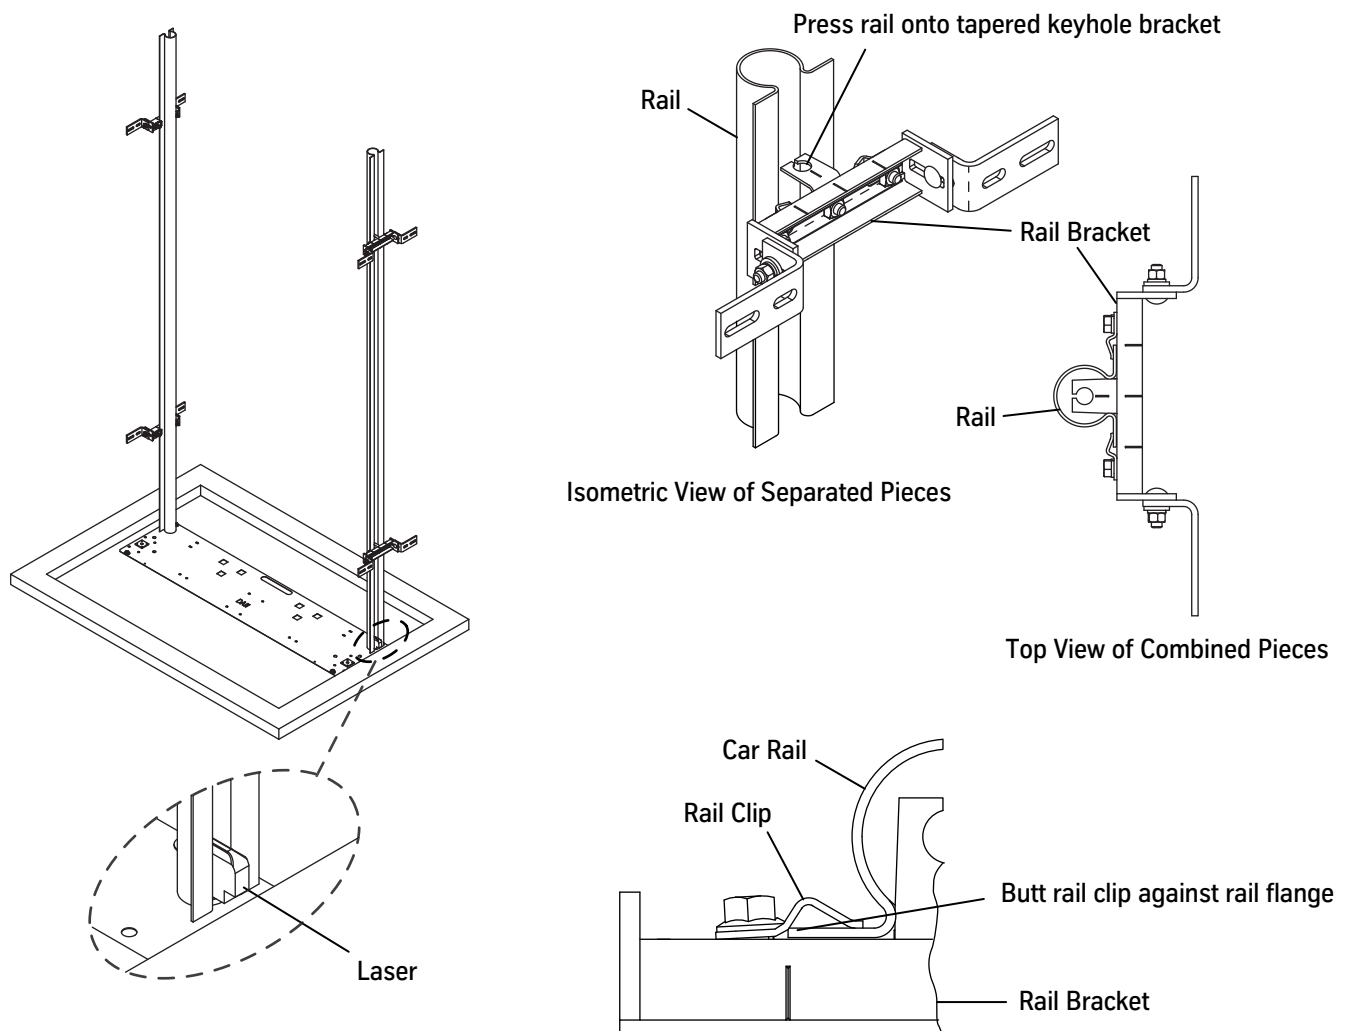

Figure 4 - Car Rail Installation
2. Press the rail onto the tapered keyhole brackets. See Figure 4.